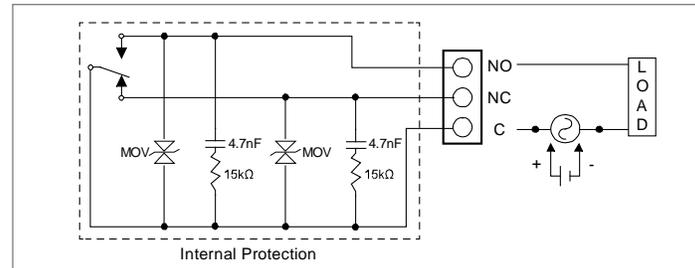

Fig 19: AC and DC Internal Inductive Loads Protection
- Suppression can be obtained with resistor-capacitor (RC) networks assembled by the user or purchased as complete assemblies. Refer to the figure 19 circuits for RC network assembly and installation.